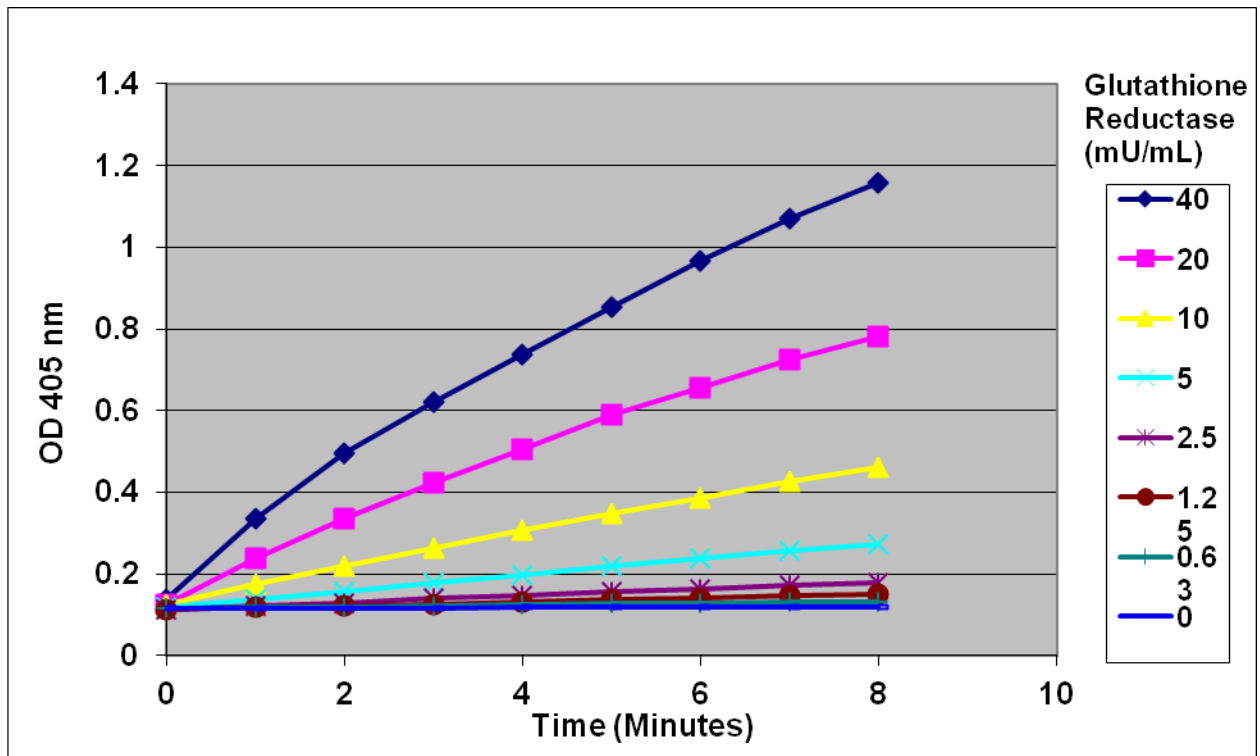

Figure 2. Glutathione Reductase Standard Curve (OD 405nm versus incubation time as a function of Glutathione Reductase concentration).
2. Graph the average of each standard, sample, and background absorbance at 405nm against incubation time. Determine the slope for each value from the linear portion of each curve. See Figure 2 under Example of Results below.